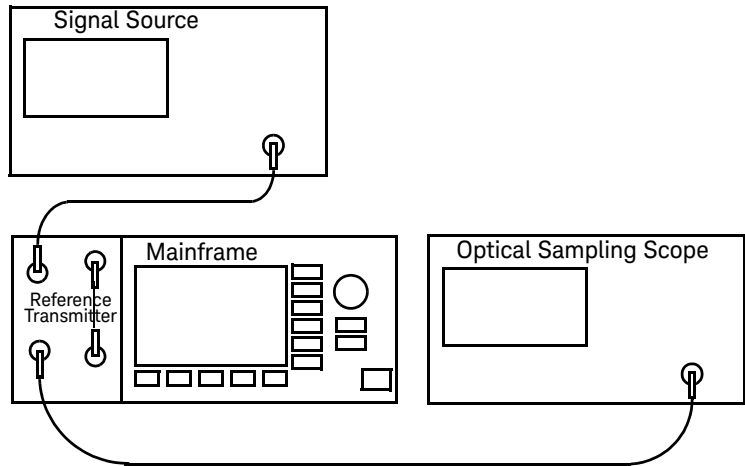

Figure 5 Operating Point Setup
- 2 Set up your equipment as displayed in Figure 5.